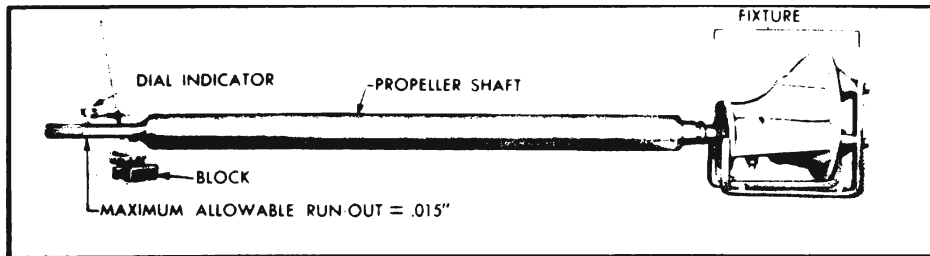

Figure 5-20—Checking Propeller Shaft in Fixture
The pinion and propeller shaft assembly may be quickly and satisfactorily checked and straightened by means of the fixture shown in figure 5-20. This fixture should be made locally, using a 1949 or 1950 differential carrier. A special N.P.N. carrier (without torque tube) may be ordered for this purpose from the Buick Service Department, Flint, Michigan. Details of the carrier supports are given in B.P.S. 2.214 and in figure 5-20 of the 1948-49 Buick Shop Manual.
2. Mount a dial indicator on a rod fastened to a block of sufficient weight to hold the indicator button firmly against the ground portion of the propeller shaft, just to the rear of the splines as shown in figure 5-20.
If the fixture shown in figure 5-20 is not available, the pinion and propeller shaft may be checked and straightened using V-blocks or rollers and a dial indicator.